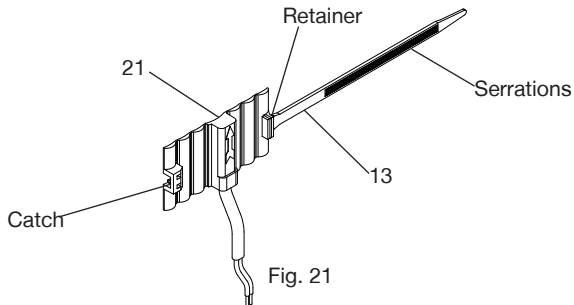

Fig. 21
- Firstly feed the tie wrap (item 13) through the retainer on the reed switch, ensuring that the tie wrap serrations are facing outwards (Fig. 21).